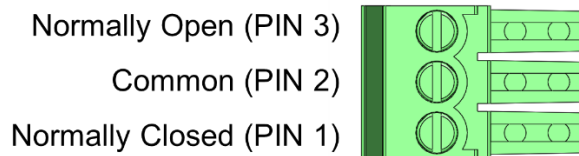

Figure 6-10 Relay contacts wiring
To wire the relay in the PDI core uses a 3-way header to breakout the relay contacts from the PCB. The Normally Open (NO), Common (COM) and Normally Closed (NC) positions are shown in Figure 6-10 Relay contacts wiring.